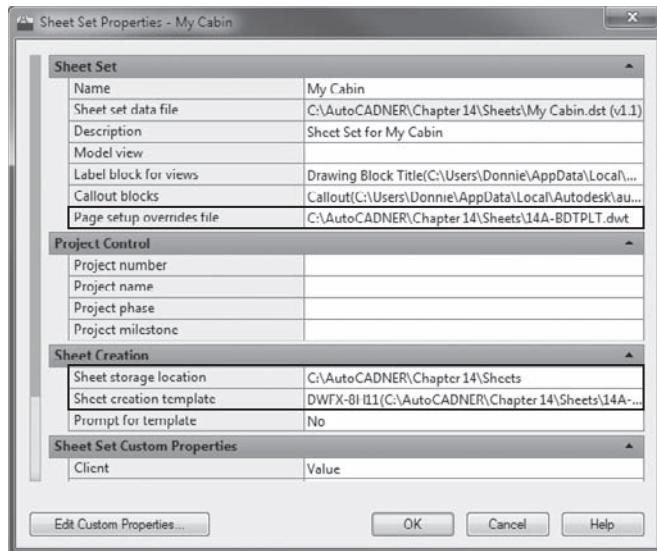

FIGURE 14.32 The Sheet Set Properties dialog box configured for the My Cabin project
10. Verify that the Sheet Set Properties - My Cabin dialog box looks like Figure 14.32, and then pick the OK button to save the settings and exit the dialog box.